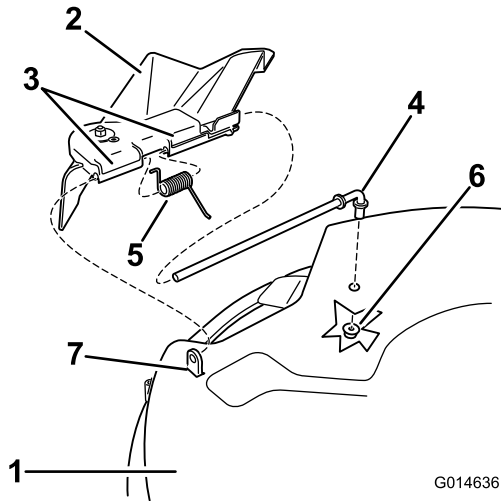
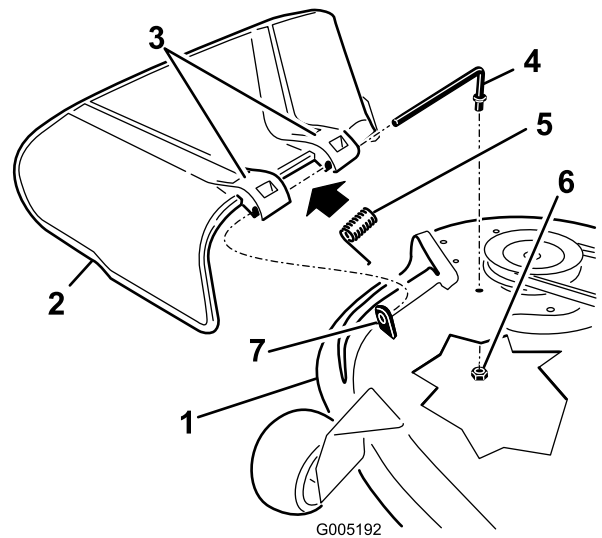

Figure 73
Figure 74
1. Remove the nut (3/8 inch) from the rod under the mower (Figure 73 and Figure 74).
2. Slide the rod out of the short stand-off, spring, and grass deflector (Figure 73 and Figure 74).
4. Replace the grass deflector (Figure 73 and Figure 74).
7. Slide the rod through second grass deflector bracket (Figure 73 and Figure 74).
9. Secure the rear end of the rod into the mower with a nut (3/8 inch) as shown in Figure 73 and Figure 74.